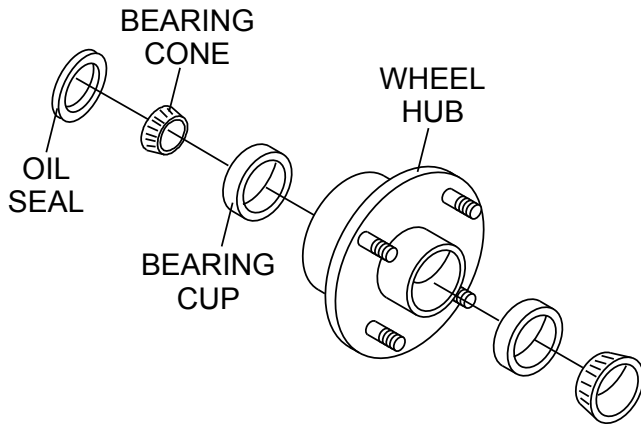

Figure 32. Wheel Hub and Bearings
1. After every 3 months of operation, remove the hub dust cap and inspect the wheel bearings (Figure 32). Once a year, or when required, disassemble the wheel hubs remove the old grease and repack the bearings forcing grease between rollers, cone and cage with a good grade of high speed wheel bearing grease (never use grease heavier than 265 A.S.T.M. penetration ("No. 2.")).
2. Fill the wheel hub (Figure 32) with grease to the inside diameter of the outer races and also fill the hub grease cap. Reassemble the hub and mount the wheel. Then tighten the adjusting nut, at the same time turn the wheel in both directions, until there is a slight bind to be sure all the bearing surfaces are in contact.